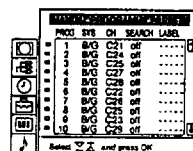

Fig. 21
- 3 Select "Manual Programme Preset" with Δ+ or ∇- and press OK. The MANUAL PROGRAMME PRESET menu appears. (See Fig. 21.)